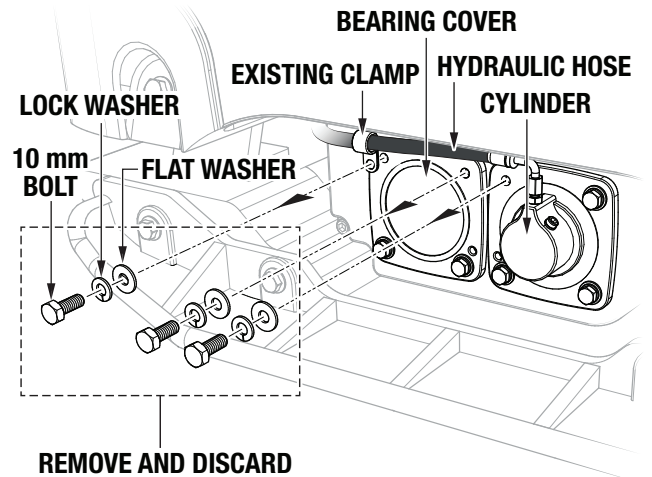

Figure 5. Bolt Removal
1. Remove and discard the **top two** 10 mm bolts, lock washers, and flat washers securing the bearing cover to the vibrator (Figure 5). Leave the existing cable clamp on the hydraulic hose as shown.
2. Remove and discard the **top left** 10 mm bolt, lock washer, and flat washer securing the cylinder to the vibrator (Figure 5).